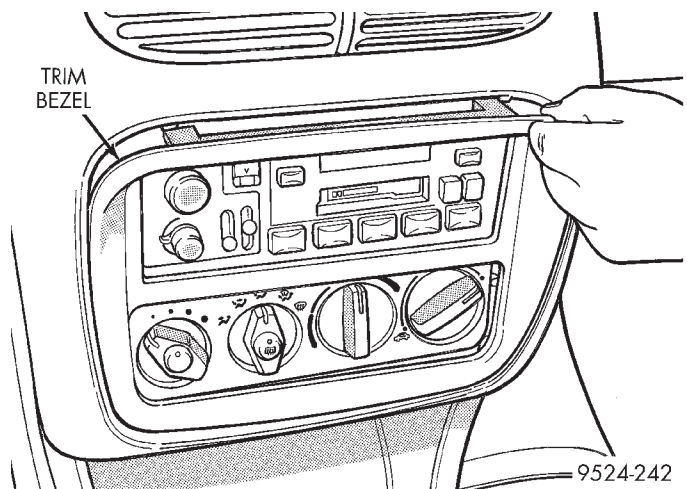

**Fig. 29 Control Module**
- (1) Place the ignition key in the OFF position before removing control module.
- (2) Remove trim bezel (Fig. 29).